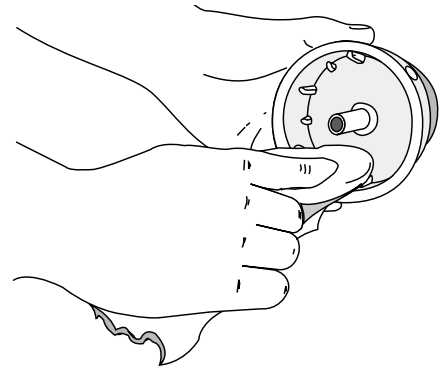

Fig. 20
4. Use a clean cloth to clean the inner reel, spring, shaft, and inner surface of the outer spool (Fig. 20).
4. Use a clean cloth to clean the spring, shaft, and inner surface of the outer spool (Fig. 20).